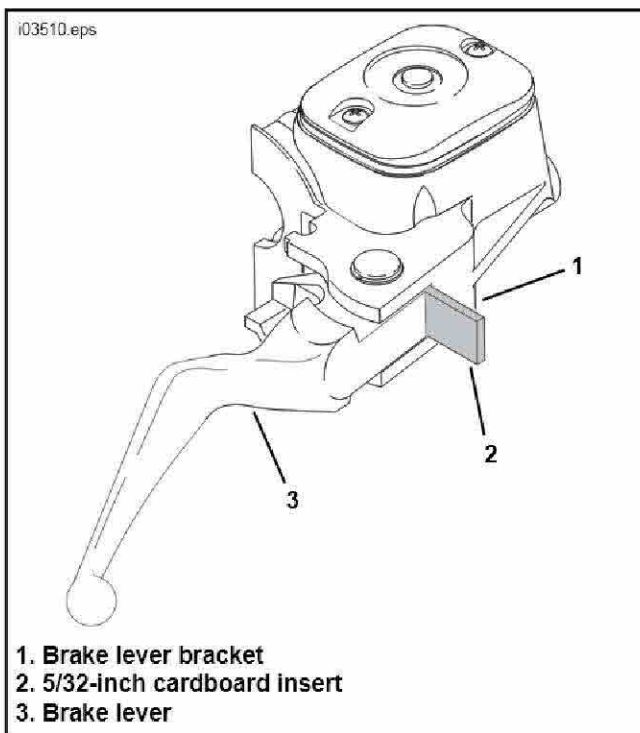

Figure 1. Install Cardboard Insert
1. See Figure 1. Place the cardboard insert between the brake lever and lever bracket.